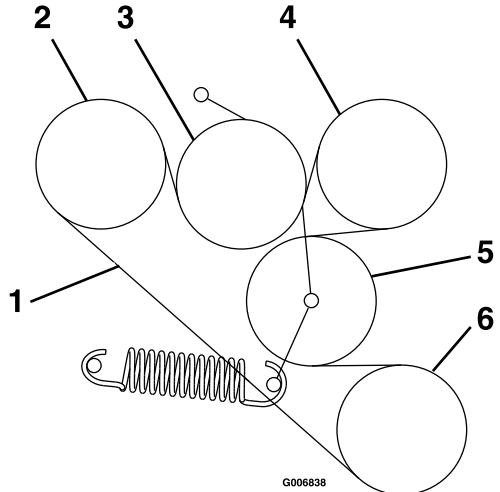

**Figure 49**
13. Loosen the jam nuts and adjust the linkage until the top of the idler arm is aligned with the bottom of the notch on the tension arm as shown in Figure 49.